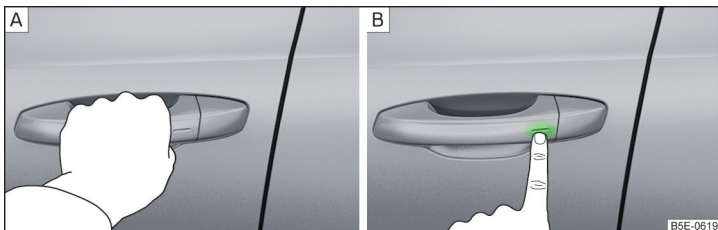

Fig. 54 Vehicle unlocking / vehicle locking
- › Grip the door handle to **unlock** the vehicle » Fig. 54 - **A**.
- › Touch the sensor on the door handle with your finger to **lock** » Fig. 54 - **B** the vehicle.
- › Within 5 s, touch the sensor on the door handle with your finger » Fig. 54 on page 61 - **B**. Deactivation is confirmed by a single flash of the direction indicators.